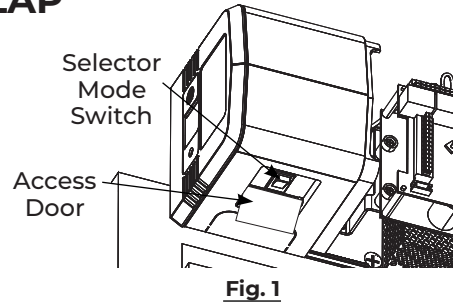

Fig. 1
1. Open union assembly access door and flip selector mode switch to OFF position. (Fig. 1)